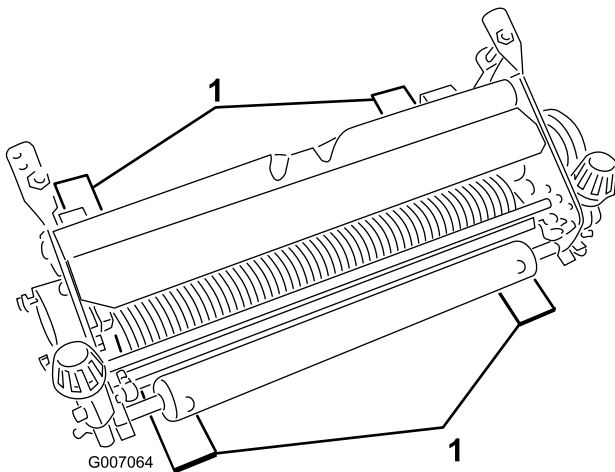

Figure 3
2. Place (4) gauge bars, which have the desired depth of blade penetration below ground, under the front roller and rear wheels of dethatcher unit (Figure 3).